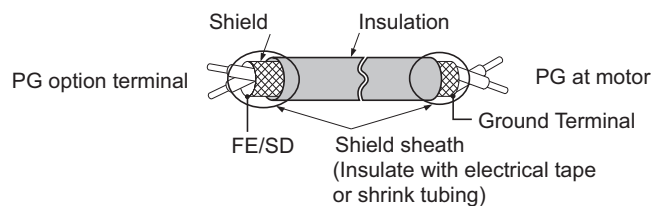
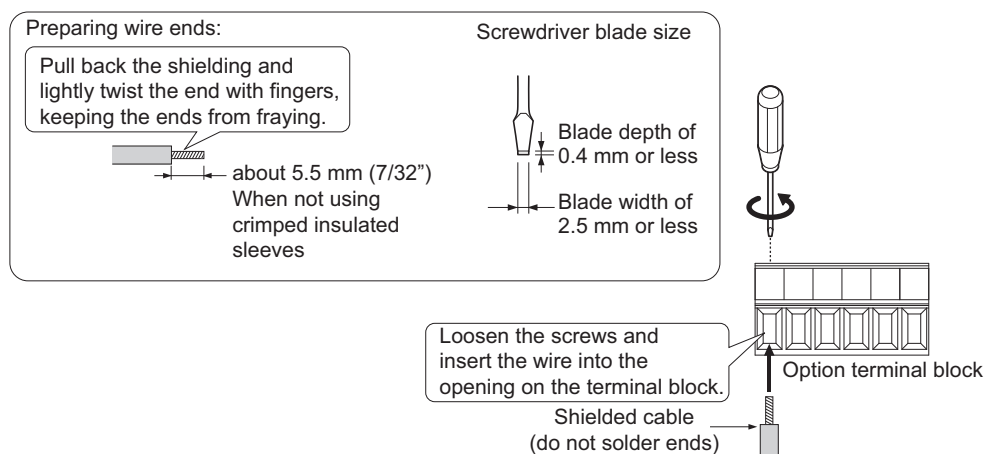

Figure 8.6 Preparing Ends of Shielded Cable
Figure 8.7 Preparing and Connecting Cable Wiring
2. There are two screw holes on the drive for use as ground terminals (I). When connecting three options, two ground wires will need to share the same drive ground terminal.
4. Prepare and connect the wire ends as shown in Figure 8.6 and Figure 8.7. Refer to Wire Gauges and Tightening Torques on page 378 to confirm that the proper tightening torque is applied to each terminal. Take particular precaution to ensure that each wire is properly connected and wire insulation is not accidentally pinched into electrical terminals.